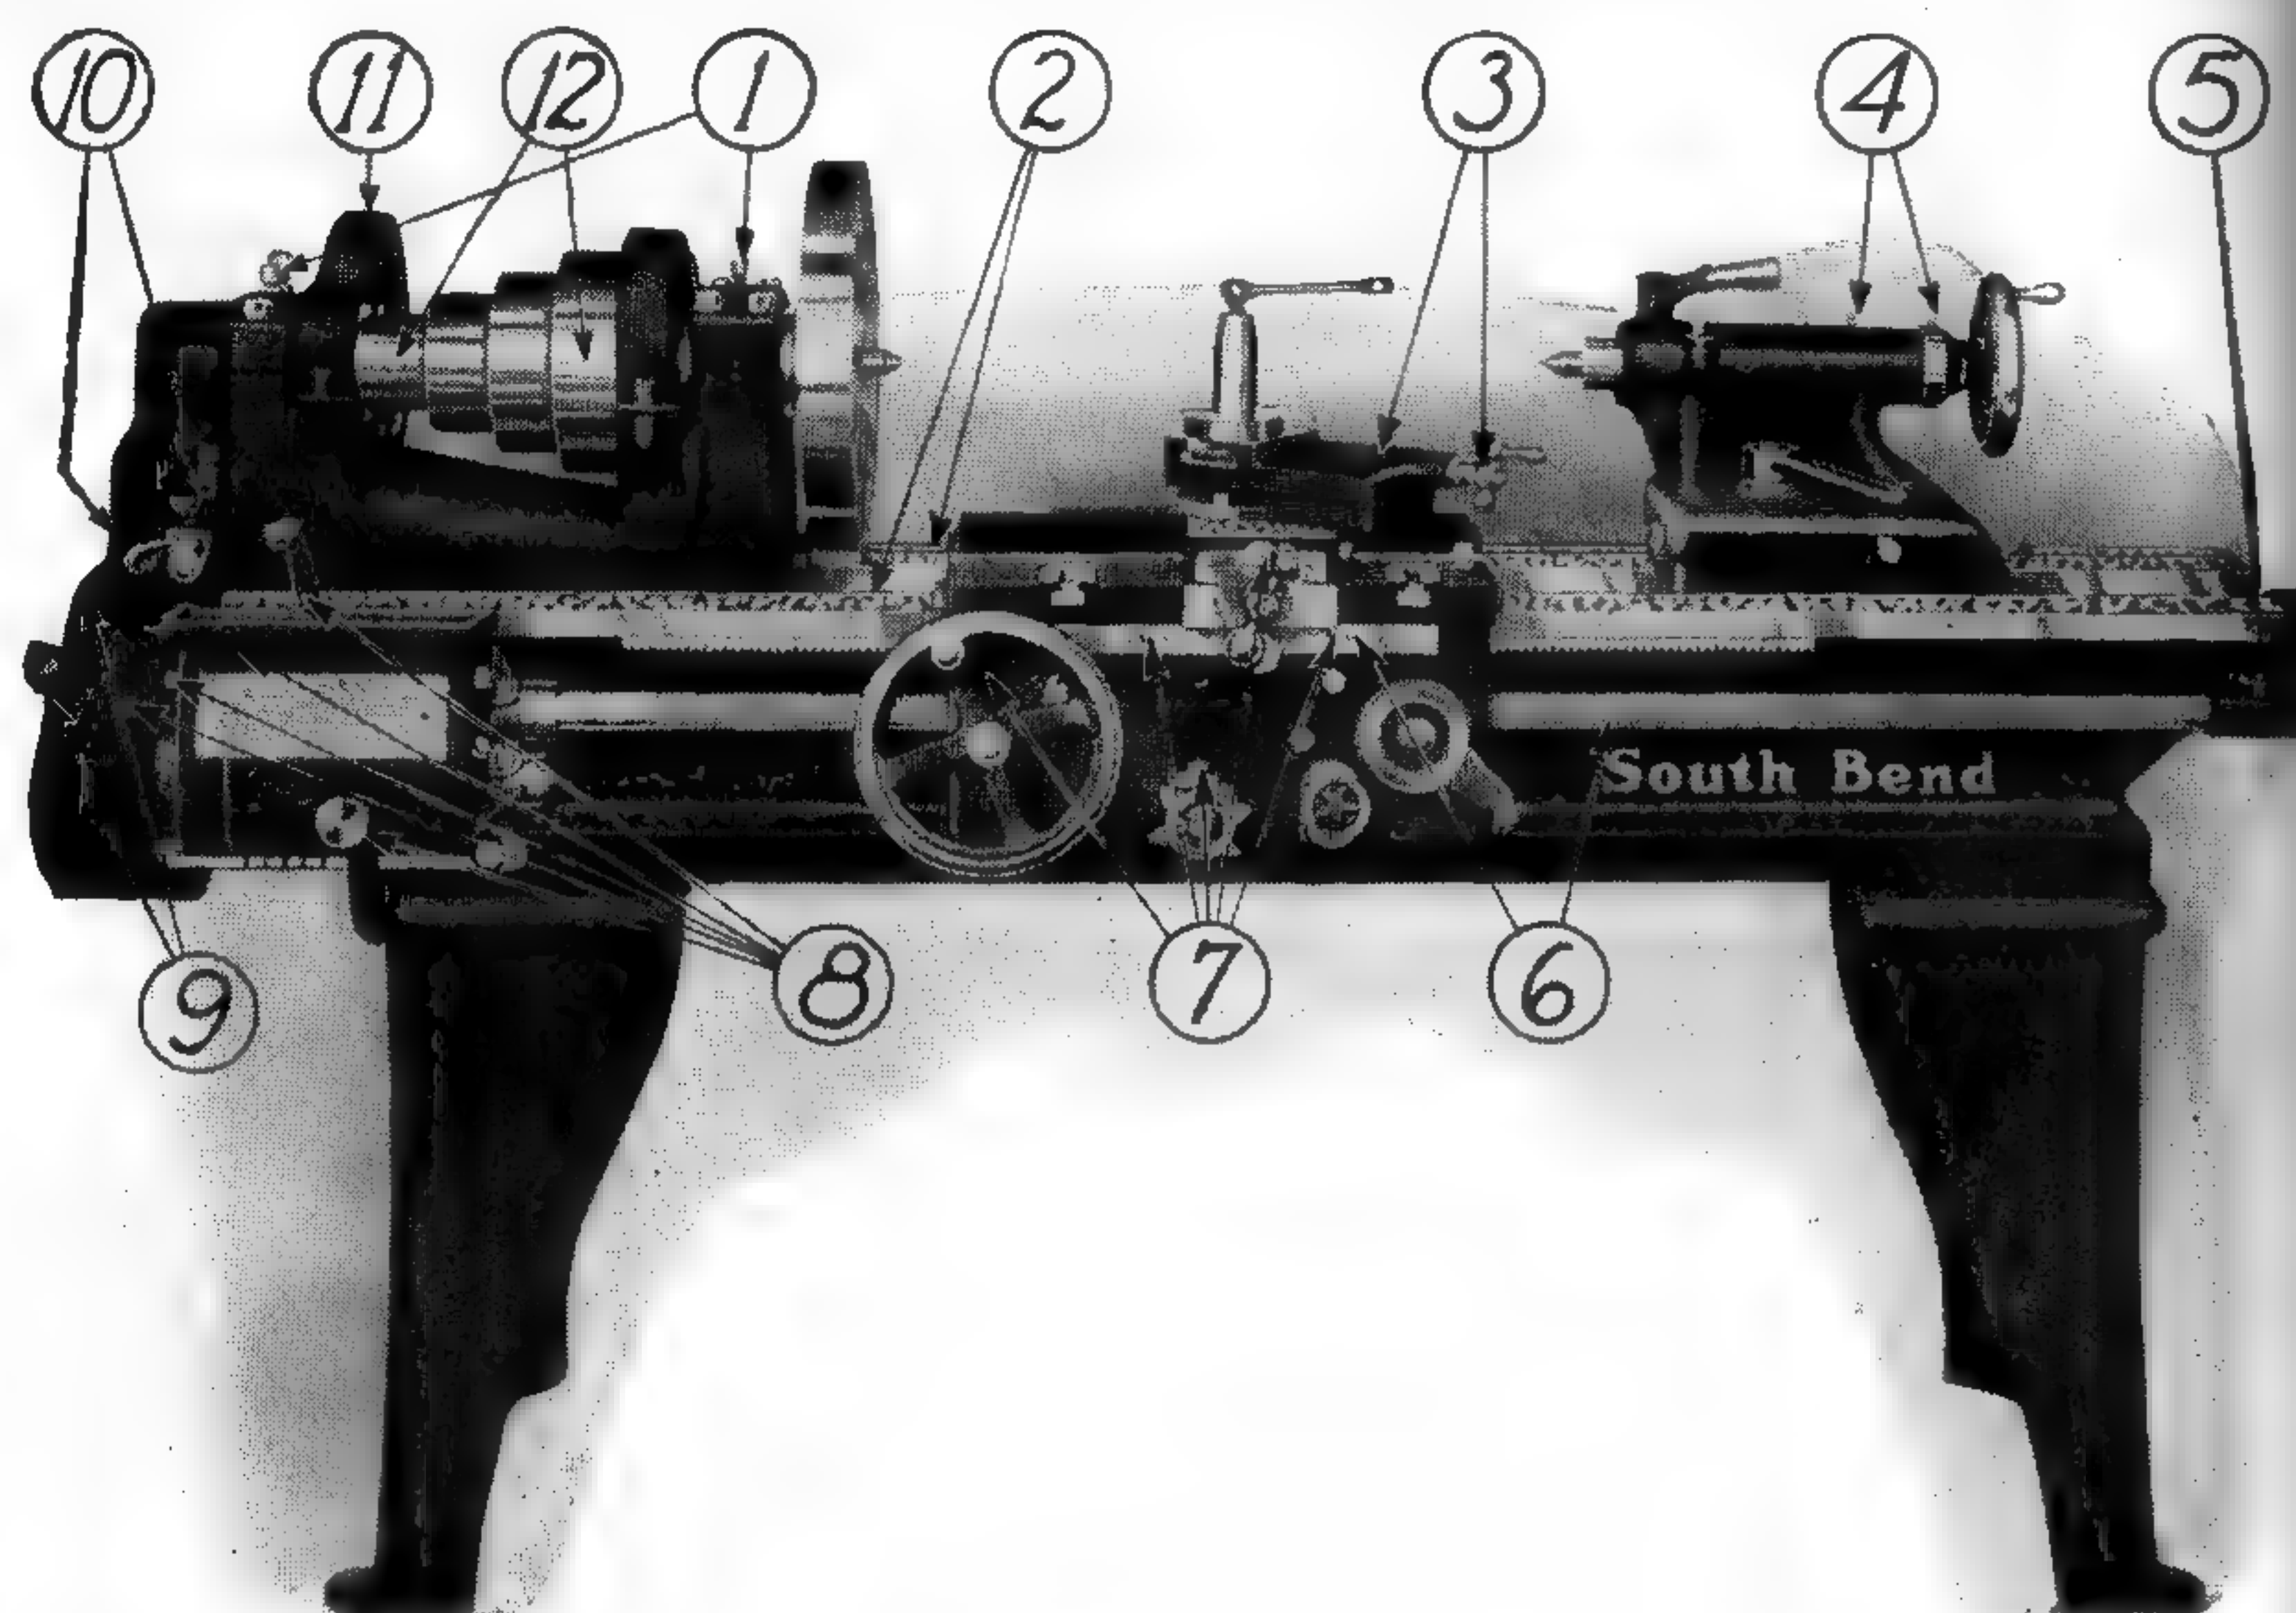

Fig. 411.—Photograph Showing Location of Oil Holes
**First.**—Use only a good grade of machine oil, equal in quality to Atlantic Red, in oiling the lathe. Oil all bearings regularly as directed in Fig. 411.